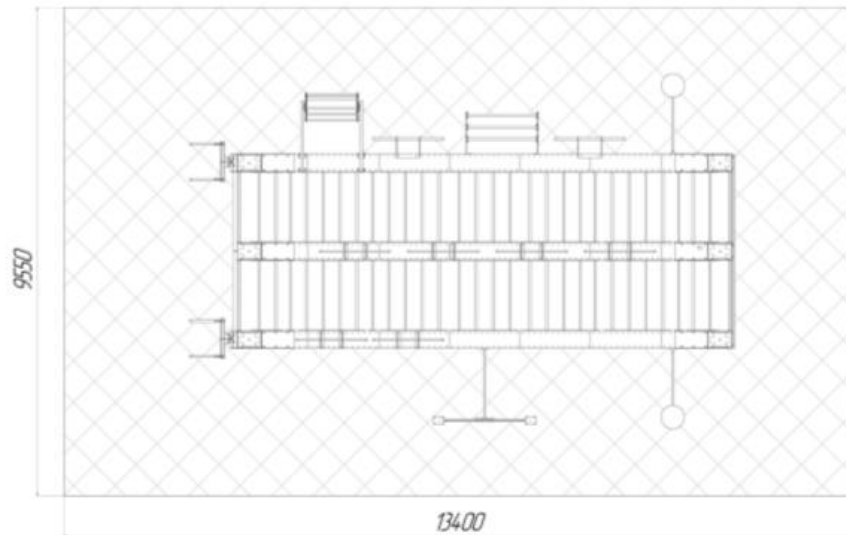

Fig.7
3.15 Put shock absorbing material on the surface under the assembled complex (not included in delivery). Protrusion of the items position 2 on outer sides must be at least 2500 mm. Total protection cover on the plan and safety zones are 13400 x 9550 mm (see fig.7). Other types of cover material and foundation shall conform to EN 16630:2015.